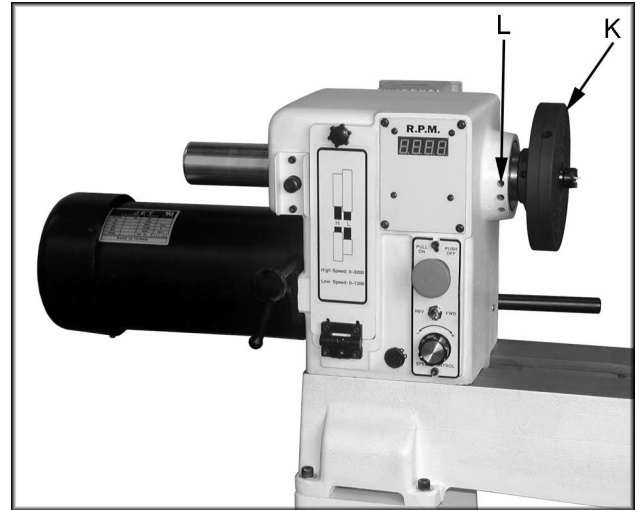

Fig. 8
7. **Headstock Spur Center:** (J, Fig. 8) Used for turning between centers. Spindle taper is MT-2. Remove spur center by inserting drift rod through the opposite end of the spindle and knocking spur center out.
8. **Headstock Faceplate:** (K, Fig. 8) Used for turning bowls and plates. There are a number of screw holes for mounting the workpiece. Thread the faceplate onto the spindle in a clockwise direction, and tighten two setscrews. Remove the faceplate by loosening two setscrews. Push in headstock spindle lock and use the provided rod in faceplate holes to unthread the faceplate.
9. **Headstock Indexing Hole:** (L, Fig. 8) Thread indexing pin into the indexing hole making sure that it locates in the spindle hole. There are 12 holes in the spindle 30° apart. Three holes in the headstock casting accept the indexing pin. These holes are 20° apart. The combination of holes will allow you to mark your workpiece for evenly spaced features. See chart on page 30.